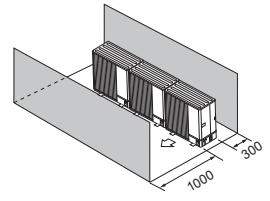

Fig. 2-15
- (4) Obstructions or closed surfaces at front and rear only (Fig. 2-15)